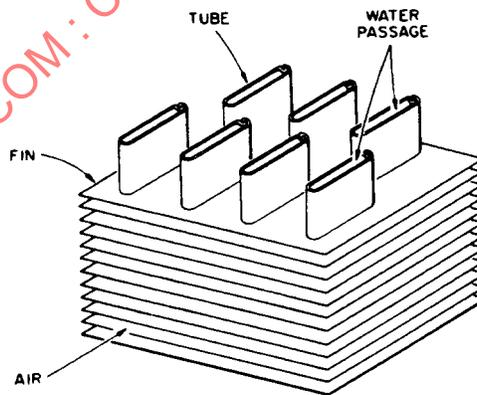

FIGURE 10—TUBE AND PLATE FIN CORE
- 3.31 Lockseam Tube**—A radiator core tube made from flat strip by folding the edges together into a locking seam. Usually made of brass with a solder-sealed seam. See Figures 10 and 11.
- 3.41 Plate Fin**—A continuous flat fin having holes through which the radiator tubes pass. The holes are usually collared to make a soldered or brazed connection to the tubes. See Figure 10. The fins may be ribbed, dimpled, or louvered to improve heat transfer to the cooling air.